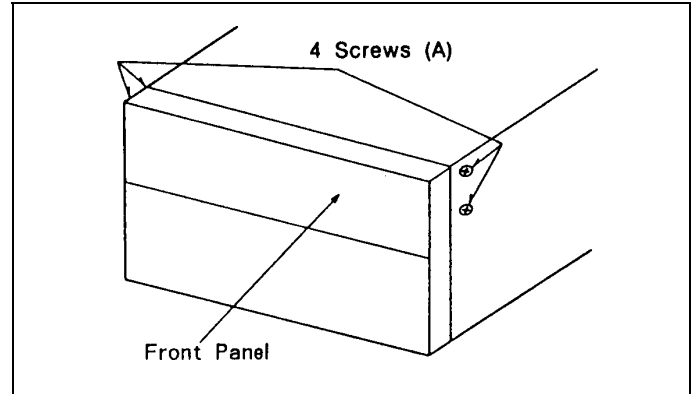

Figure 7-16-1 Front Panel Removal
1. Unscrew 4 screws (A) and pull Front Panel forward as shown in Figure 7-16-1.